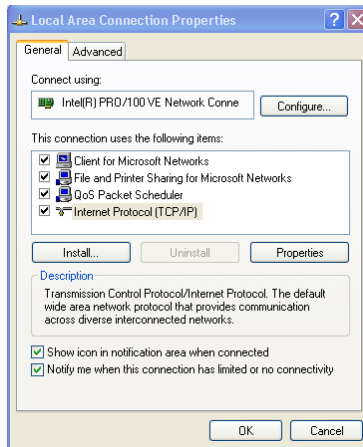

Figure 1: Local Area Connection Properties Window
5. Select the Internet Protocol (TCP/IP) and click **Properties** (see Figure 1).